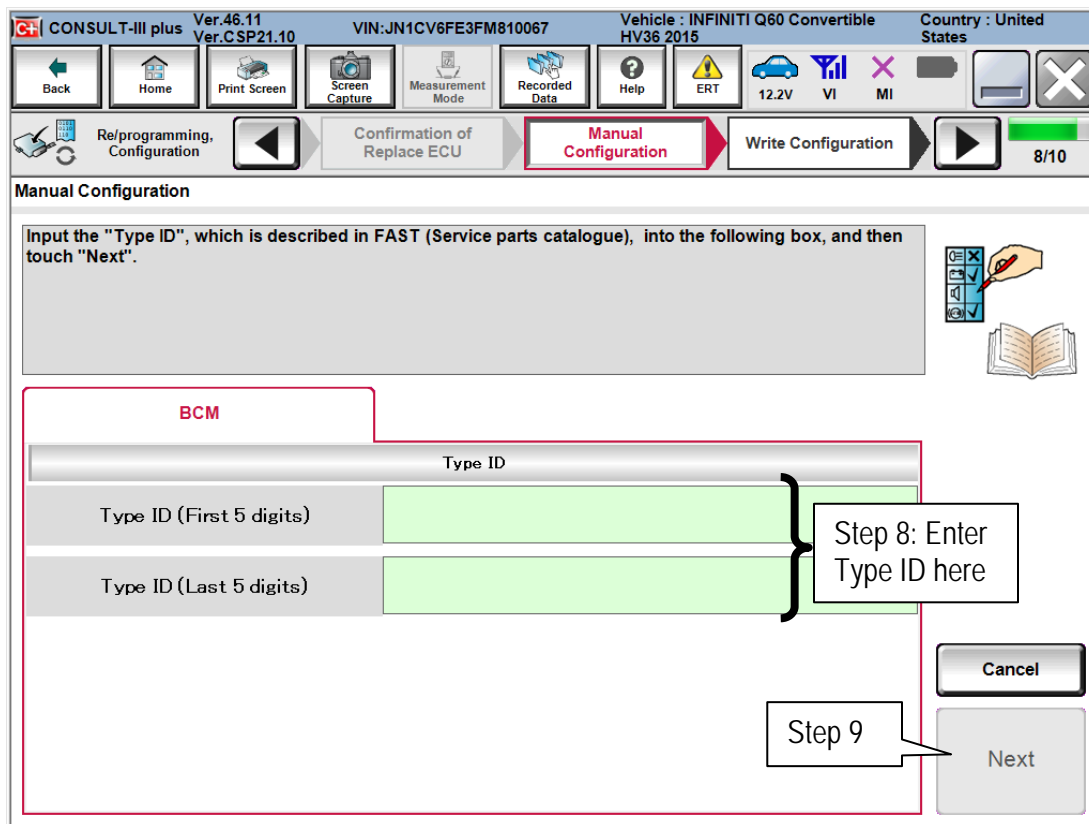

Figure 3
8. When you get to the screen shown in Figure 3, enter the Type ID number you obtained from step 1.
- NOTE:** If the screen shown in Figure 3 does not display, recheck the replacement BCM part number using FAST. Make sure a "blank" BCM has been installed.